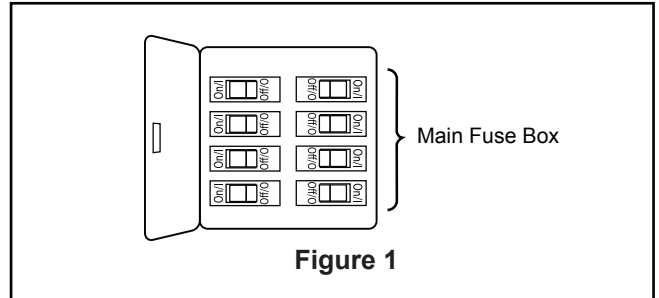

Figure 1
- 1. Slide blades through slots in motor housing and attach to the motor hub using the #8-32 serrated head screws and flat washers. Make sure the screws securing the blades to the motor hub are tight and are properly seated. (Figure 1)
- 1. Remove the hanger ball portion from the downrod/hanger ball assembly by loosening the set screw in the hanger ball until the ball falls freely down the downrod. Remove the pin from the downrod, then remove the hanger ball. Retain the pin and hanger ball for reinstallation in Step 6. (Figure 1)
To avoid possible fire or shock, be sure electricity is turned off at the main fuse box before hanging. (Figure 1)
1. To set the code on receiver unit, slide dip switches to the same positions as set on the remote. (Figure 1)